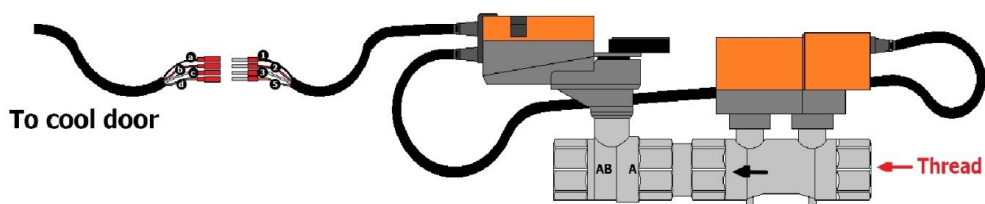

Figure 3-12: Pressure Independent Control Valve
- Power wiring is performed according to the terminal wire colors, as shown in *Figure 3-12*. The ball valve has directionality; direction of water flow is from A to AB. A is connected to the outlet of the soft tube, and AB is connected to the external piping.
| Flow direction (A to AB) | Refer to Figure 3-12 |